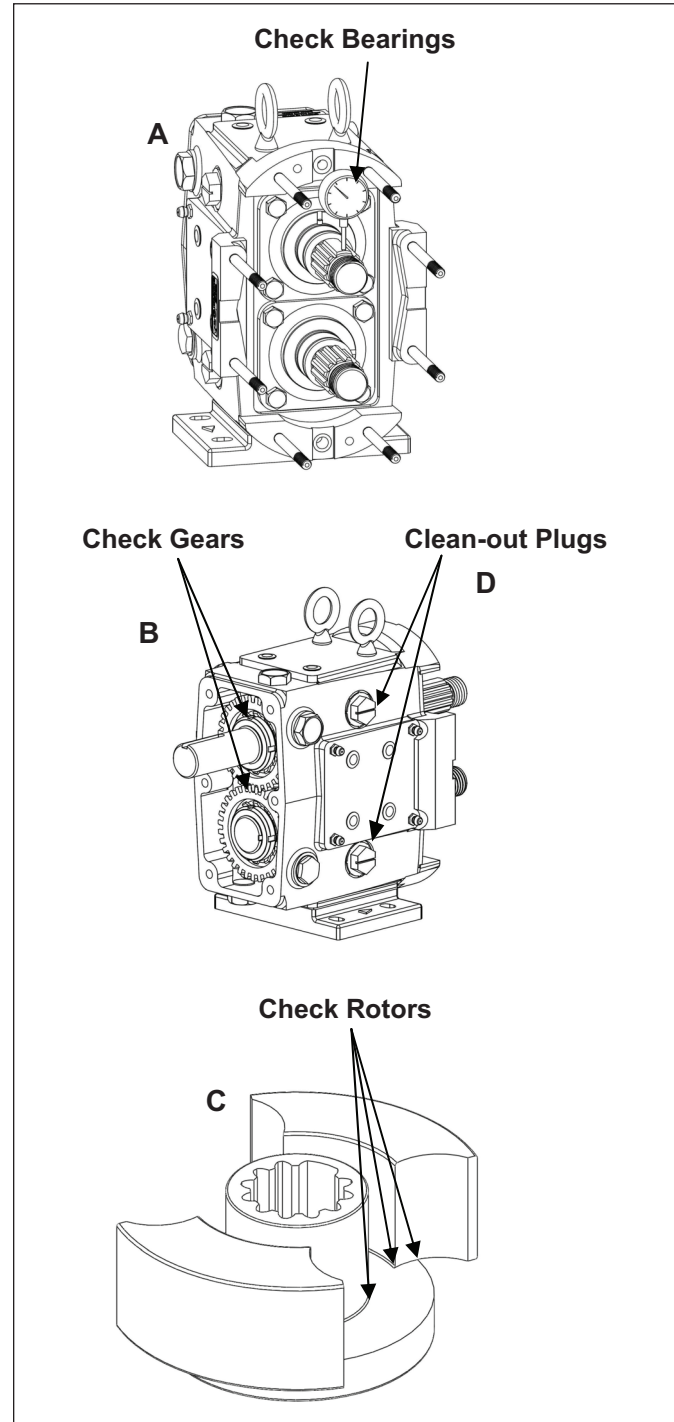

Figure 22. Annual Maintenance Checks
- Check the gear case bearings by measuring the shaft's radial movement with a dial indicator (*Figure 22, A*). If the movement is greater than or equal to the rotor-to-body clearance found on *page 41* (*Table 10*) the bearings should be replaced.
- Remove the gear casing cover (see *page 30* for disassembly information) and inspect the gears for wear and damage (*Figure 22, B*). Also check for backlash and looseness.
- Inspect the rotors for signs of wear and stress cracks around the areas defined in *Figure 22, C*. Replace, if necessary.
- Remove clean-out access plugs to clean out excess grease and water every time pump is greased. Failure to do this can greatly shorten bearing life. *Figure 22, D*.